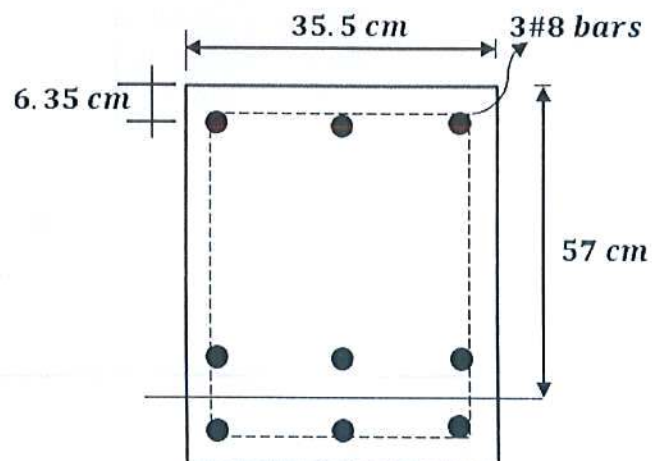

Figure: 1
3. A rectangular beam, shown in figure 1 has a width of 35.5cm & effective depth to the centroid of the tension reinforcement of 57cm. The tension reinforcement consists of six No.10 bars in two rows. Compression reinforcement consists of three No.8 bars are placed 6.35 cm from the compression face of the beam. Calculate the resisting moment capacity of the beam. (15)